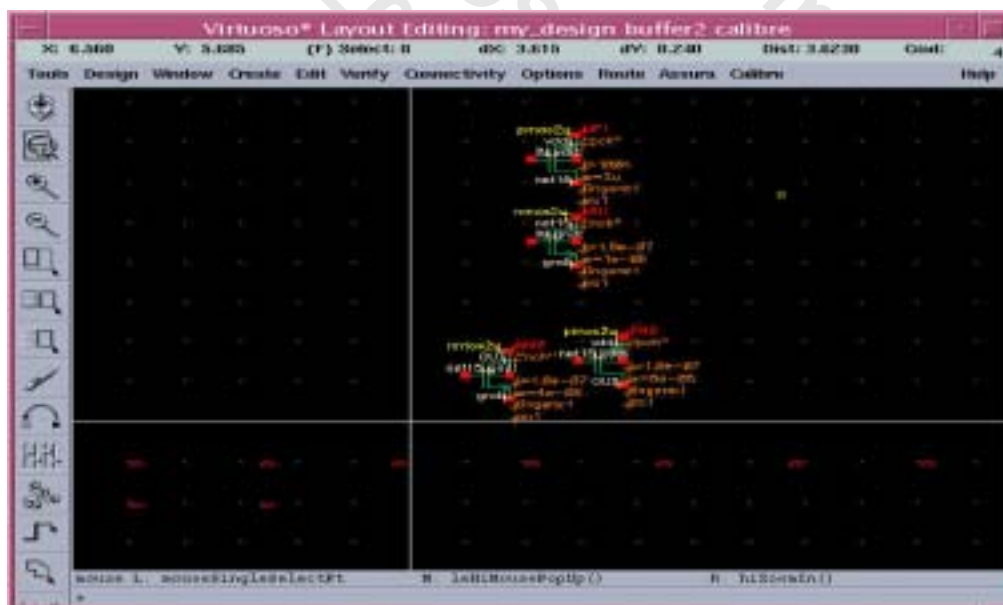

FIG. 39 Calibre view result
- Click “OK” in the Calibre view setup window to create the Calibre view. The generated Calibre-view can be seen in Fig 39.